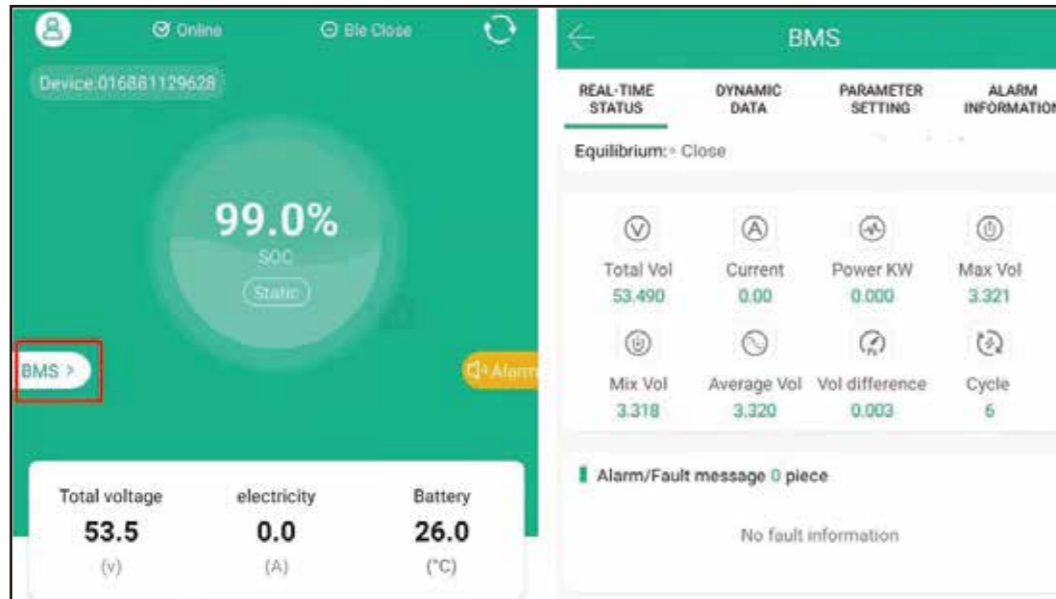

Figure 26
3.2.3 Click "BMS" menu in the home page (Figure 26) to enter the device to view the "real-time status","dynamic data" (you can check any 1 hour data),"Parameter Settings" and "Alarm Information".